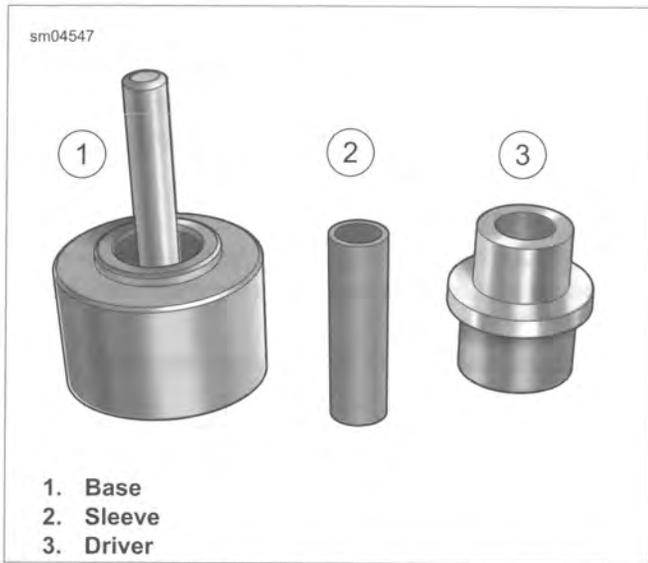

Figure 2-10. Rear Wheel Compensator Bearing Remover/Installer (HD-48921)
3. See Figure 2-10 and upper frame of Figure 2-11. Support the base (1) of REAR WHEEL COMPENSATOR